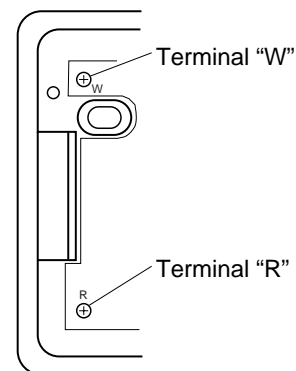

Figure 38 - Thermostat Base Terminal "W" and "R"
7. Connect one bare wire end to each terminal ("W" and "R") of the thermostat base (see Figure 38).